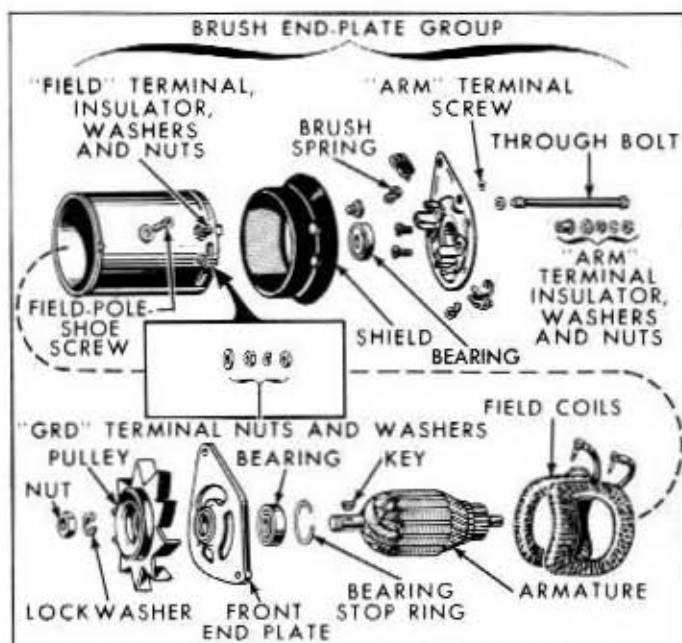

Fig. 9-6—Generator Disassembled View—(60C-7665)
A disassembled view of the generator is shown in figure 9-6.
2. Remove the two through bolts and lockwashers from the generator end plate and remove brush end plate. Remove armature (with pulley and drive end plate attached) from generator frame. Refer to figure 9-6 for parts identification.